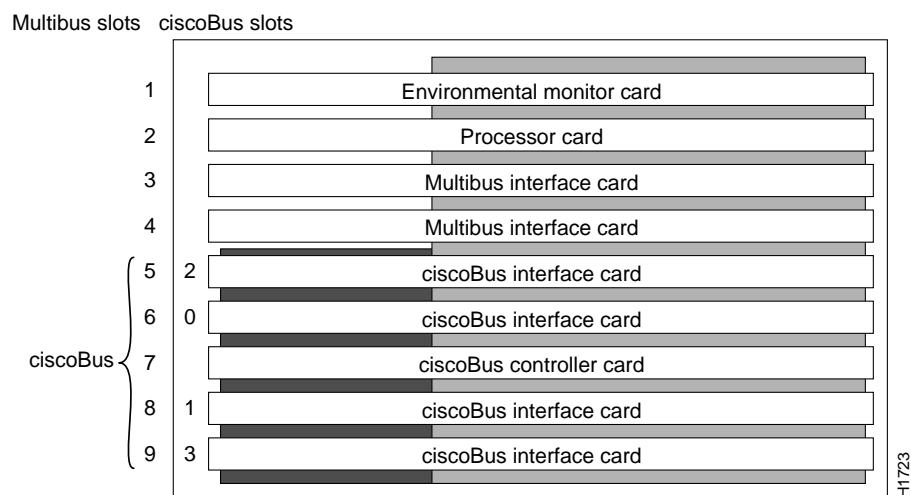

Figure 10 AGS+ System Card Cage
- Step 5** Locate the existing processor card, if any. This card will be either a CSC/1 or CSC/2 you are replacing, or a CSC/3 if you are upgrading the system software or replacing a bad CSC/3. The processor card is in the top slot in any chassis *except* an AGS+; where the processor card is in the second slot from the top. (See Figure 10.)
If you are installing the card in an M or C chassis in which the top slot is empty, place the CSC/3 in the top slot. As an example of placement in a card cage, an AGS+ card cage is shown in Figure 10.